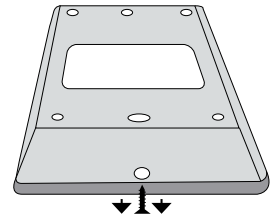

Fig. No. 12
1. Remove the screw located on the bottom side of the enclosure (see Fig. No. 12)
6. Z1 and COM contacts must be connected with resistor of 5,6k Ω nominal (see Fig. No. 12). As keyboard zone Z1 is disabled by default, it can be enabled by SMS, EKB2 keyboard, EKB3 keyboard and *ELDES Configuration Tool*. Keyboard zone Z1 must be enabled and resistor connected even if the tamper button alone is required.
9. Screw up the bottom side of the enclosure. (see Fig. No. 12)